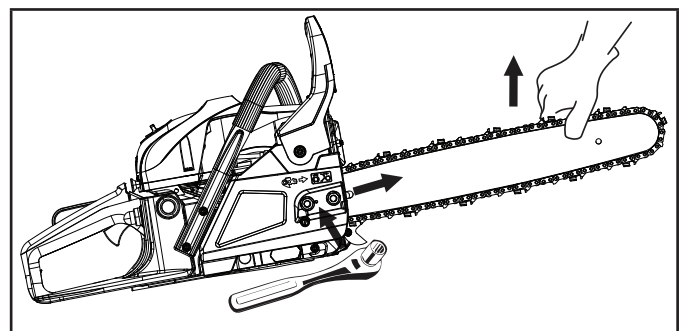

Figure 31
6. While holding up the tip of the bar, tension saw chain by turning the tension screw clockwise (Right) until the tie straps just touch the bottom side of the bar rail (Fig. 31).